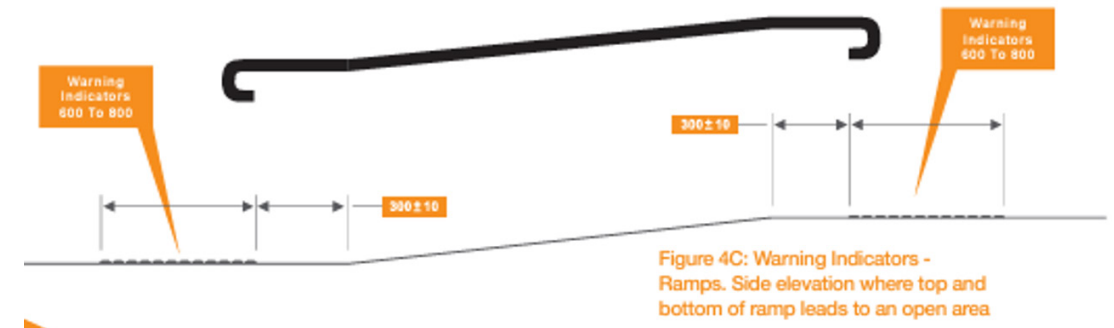

Figure 4C: Warning Indicators - Ramps. Side elevation where top and bottom of ramp leads to an open area
- Placement of Warning Indicators at both ends is also required where the top and bottom of the stairs, escalator, ramp, and moving walk, both lead to an open area (see Figure 4C & 3C).